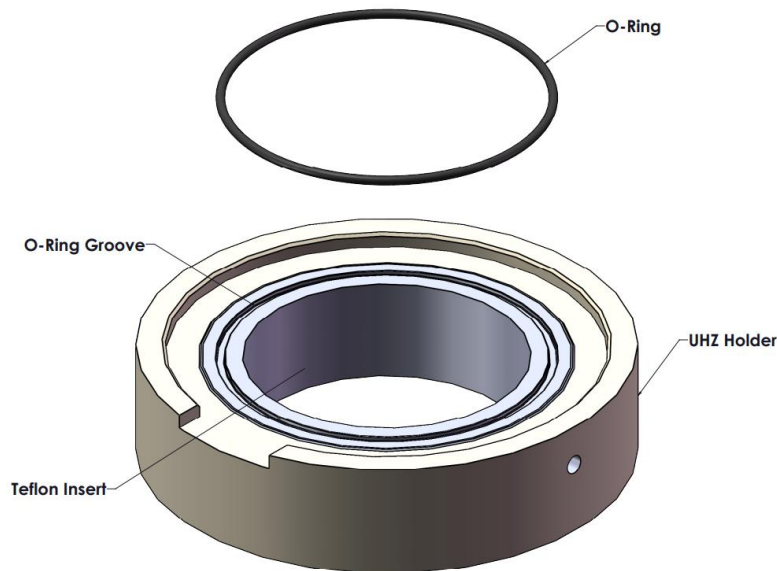

Figure 1. UHZ Holder with Teflon Sleeved Insert
- (1) Inspect the O-ring groove of the holder for any scratches, dents, nicks, or debris. Imperfections in the groove can cause leaks. DO NOT USE if any scratches, dents, or nicks are present, contact ZOOK immediately for instructions.
- (2) Inspect the provided O-ring for scratches, dents, or nicks. DO NOT USE if O-ring is damaged, contact ZOOK immediately for instructions.
- (3) Place the O-ring in the groove of the holder and follow section 4) i).
- (4) O-ring is a custom size, contact ZOOK for replacements.
- (5) Figure 1 displays a teflon sleeved holder. Teflon sintered holders are similar except they do not have a sleeve.